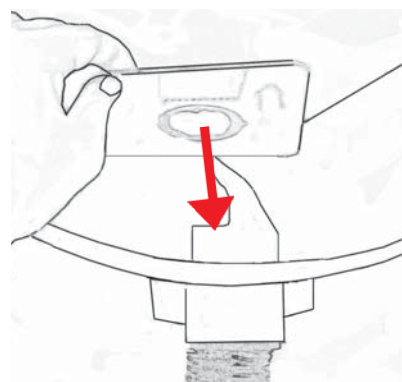

Fig. 24
1. Push the opening in the cardboard over the elevation on the inlet and pull on the new bag. Turn the cardboard to lock the bag in place, Fig. 24.